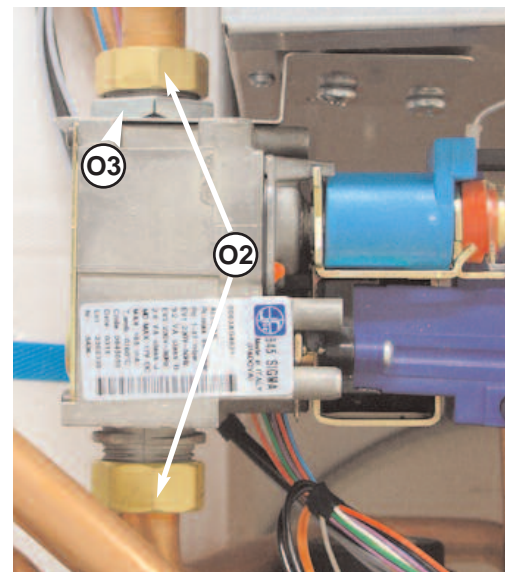

Fig. 18.45
4. Undo the 2 gas pipe nuts “O2” (spanner 30) and the nut “O3” securing the gas valve from the combustion chamber (see Fig. 18.45);